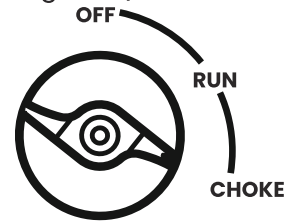

Figure 6: Turn Engine/Fuel Switch to CHOKE Position
3. Turn the engine/fuel control switch to the **CHOKE** position (see Figure 6).